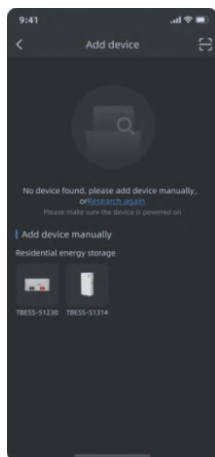

Figure 1
1) Figure 1: Confirm that the device has been turned on, try again near the device.